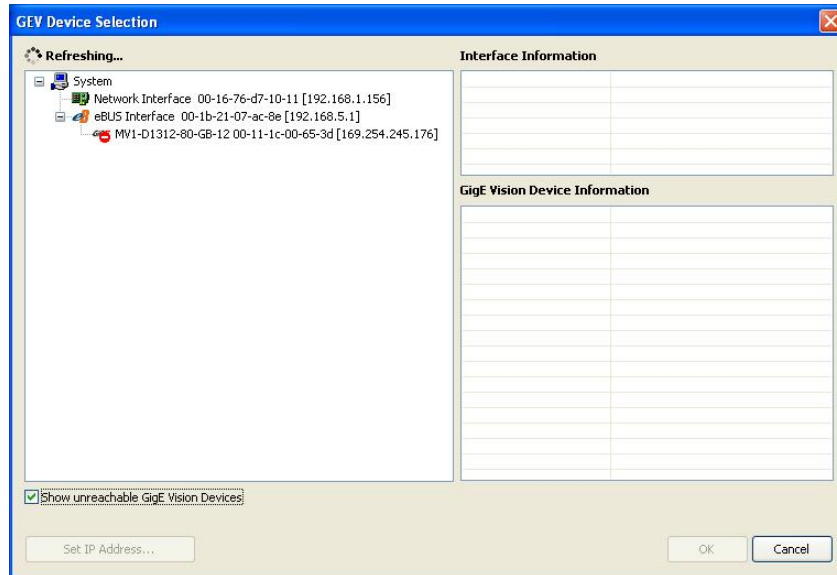

Figure 3.10: GEV Device Selection Procedure displaying the selected camera
- Click on the Select / Connect button in the PF_GEVPlayer . A window with all detected devices appears (see Fig. 3.10). If your camera is not listed then select the box Show unreachable GigE Vision Devices.